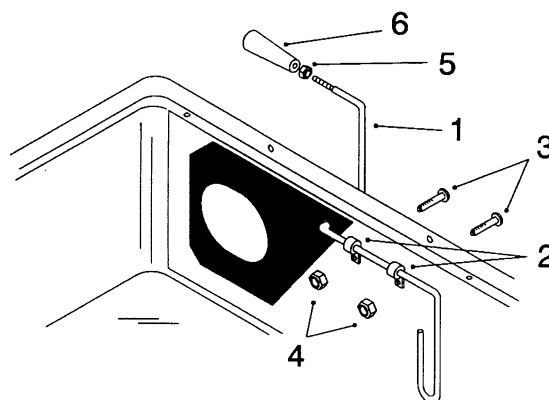

Figure 8
3. Install the "full-bag" indicator rod through the hole in the rubber seal and the slot in the bagger cover (Fig. 8). Mount the full-bag indicator rod against the bagger cover using two clips, $\frac{1}{4}$ " x $\frac{5}{8}$ " pan-head screws, and $\frac{1}{4}$ " nylon lock nuts (Fig. 8).
4. Screw the jam nut completely onto the indicator rod (Fig. 8). Then screw the handle (Fig. 8) close to the jam nut so you can read the decal from the operator's position. Tighten the jam nut up against the handle to lock it in place.